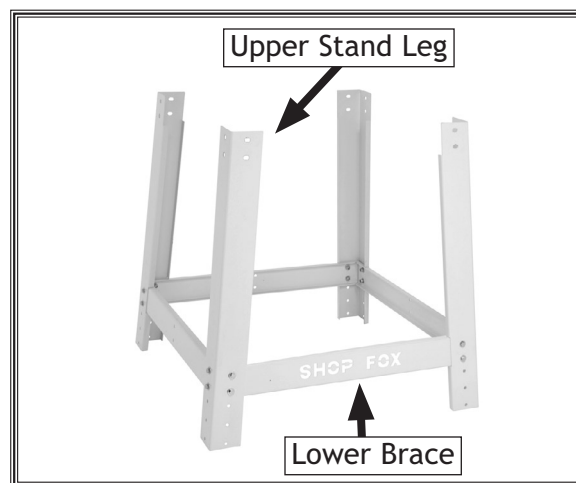

Figure 13. Upper stand legs connected to lower stand braces, Model W1810.
1. Model W1810 Only: Connect the upper stand legs with the lower braces, using (16) $\frac{3}{8}$ "-16 x $\frac{3}{4}$ " hex bolts, (32) $\frac{3}{8}$ " flat washers, and (16) $\frac{3}{8}$ "-16 lock nuts, as shown in **Figure 13**. *Only finger tighten for now.*